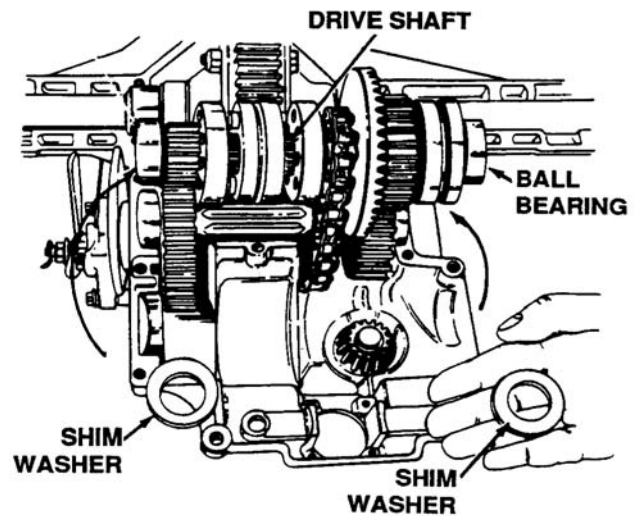

Figure 5-34. Drive Shaft
8. Roll back the drive shaft assembly and remove the shim washers from each end of the drive shaft. See Figure 5-34.